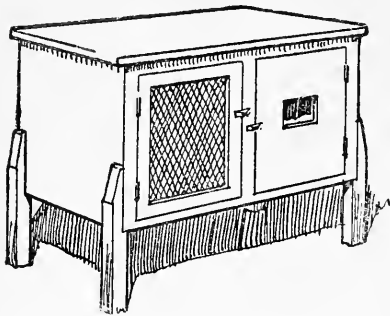

Fig. 7.—Ferret Hutch
**Another Hutch.**—The hutch which I show in Fig. 7 was specially designed for use as a ferret hutch, but is generally applicable to many different uses. Fig. 8 is the front elevation, and Fig. 9 is a cross section. The hutch can easily be converted from a box or packing case, or can be built up of  $\frac{5}{8}$ -in. or  $\frac{3}{4}$  in. boards. A few suitable dimensions are suggested in the illustrations, but they can be varied to any extent. Four legs will be required, and these may be of square or rectangular section and of any suitable thickness, 2 in. by  $1\frac{1}{4}$  in. being suggested in the illustrations.